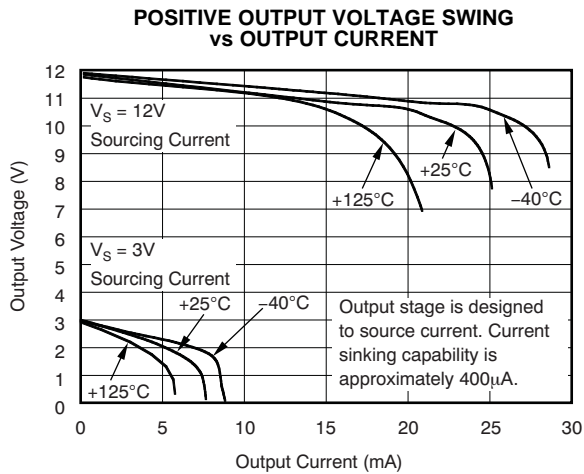

Figure 8.
(1) Offset is extrapolated from measurements of the output at 20mV and 100mV  $V_{\text{SENSE}}$ .
(2) Total output error includes effects of gain error and  $V_{\text{OS}}$ .
(3) Linearity is best fit to a straight line.
(4) For details on this region of operation, see the Accuracy Variations section in the Applications Information.
(5) See Typical Characteristic curve *Positive Output Voltage Swing vs Output Current* (Figure 8).
(6) Specified by design; not production tested.